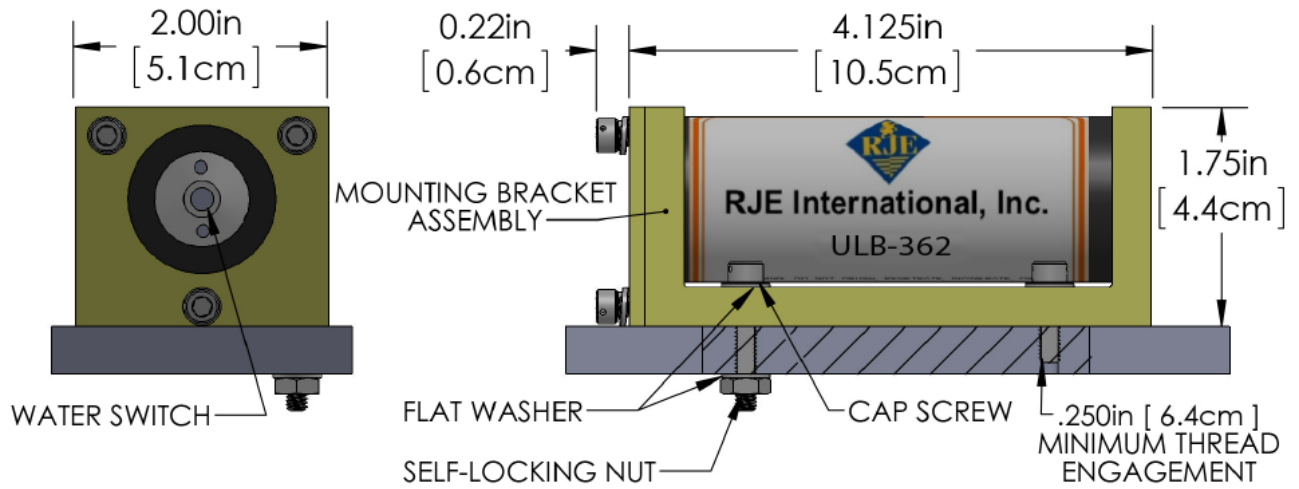

Figure 3-2 Securing the Mounting Bracket
4. Secure the mounting bracket with four 10-32 stainless steel screws and associated hardware (not supplied) as shown in Figure 3-2.